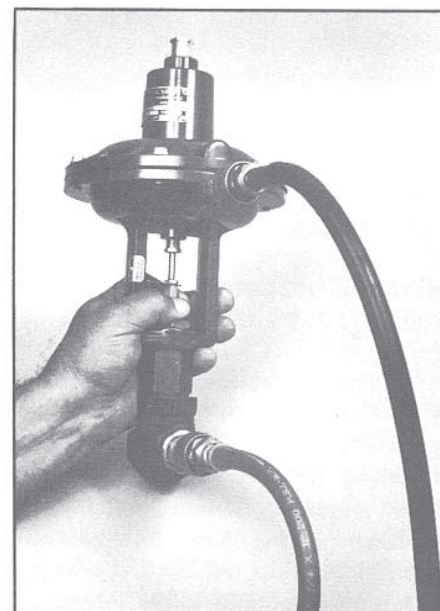

FIG. 10
7. Normal hysteresis (dead band) in valve stroke should be no more than 1/4 PSIG instrument signal. This can be checked by placing the thumb and forefinger on the valve stem in contact with the packing gland and regulating manually the 3-15 PSIG instrument signal (gauge in line), visually watching gauge and feeling movement. (Fig. 10)